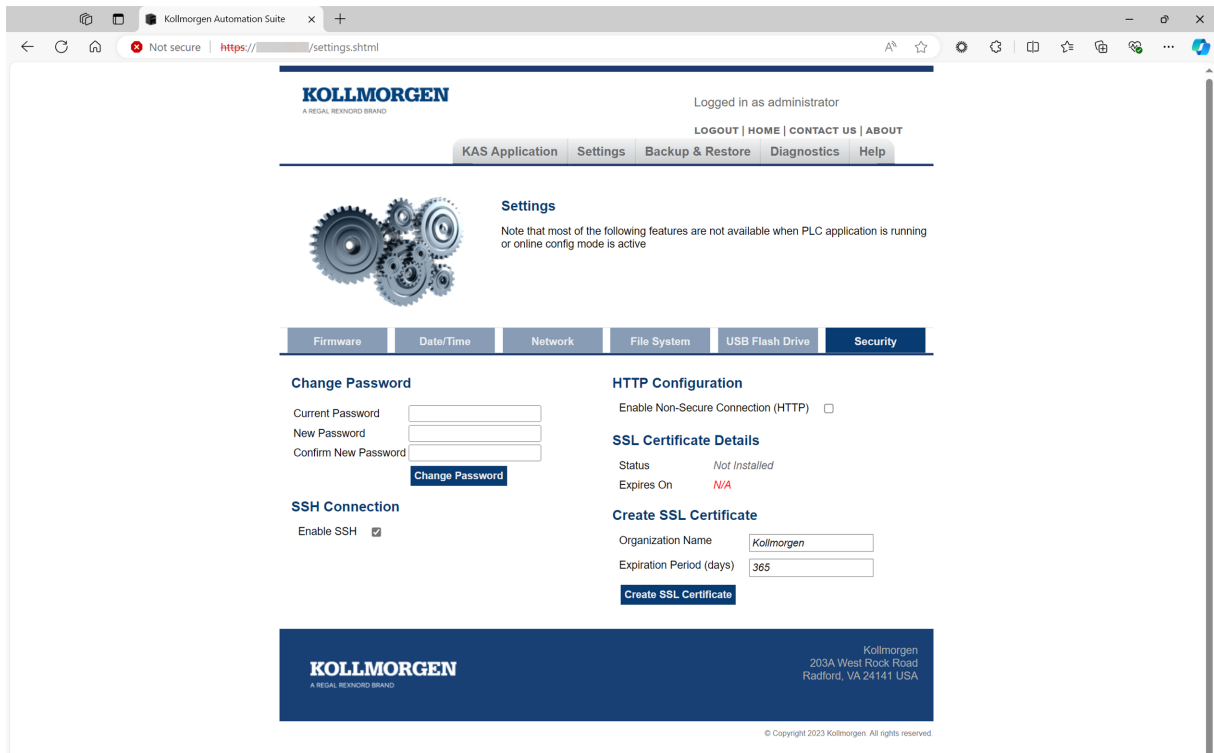

Figure 9-19: Create SSL Certificate area with content
- b. Enter the **Expiration Period (days)**. (Figure 9-19)